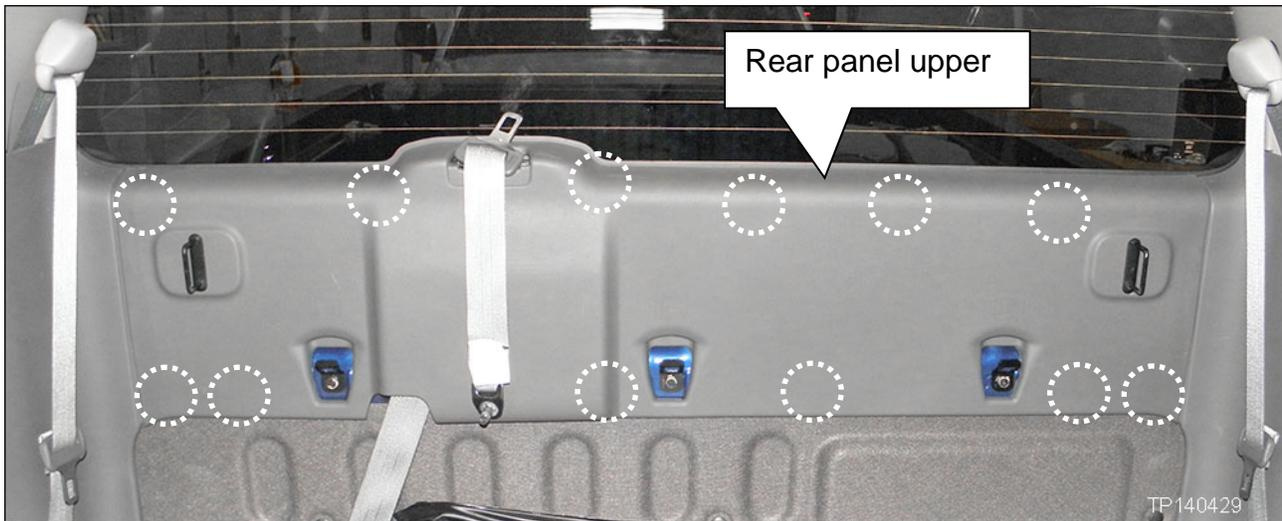

Figure 20
- Panel is held on with 12 clips, approximate location is shown in Figure 20.